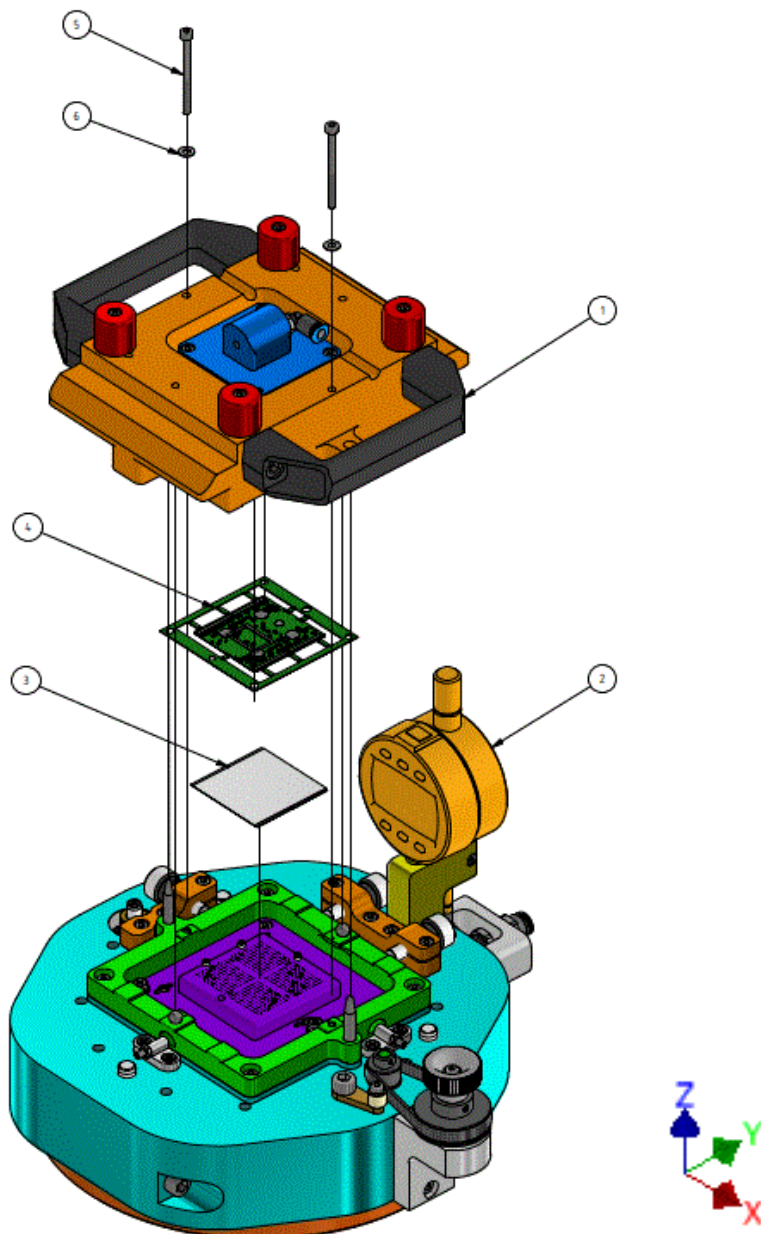

Fig.24 Baremodule jig with flex jig joining process
1. Fixed baremodule pos.3, on the island of the baremodule jig pos.2, move freely downwards in Z-axis (Fig.24)
2. Position Flex-Jig Pos.1 with fixed FPCB Pos.4 incl. applied adhesive pattern on baremodule jig Pos.2 (Fig.24)
3. Fix both jigs with screws & washers pos.5 and 6, pay attention to torque (Fig.24)
4. Driving baremodule pos.3 under FPCB pos.4 (Fig.24)
- Torque screwdriver with 0.3Nm torque incl. corresponding bit SW 2.5mm for tightening the screws Fig.24 Position 3.2.3 connecting baremodule and flex jig